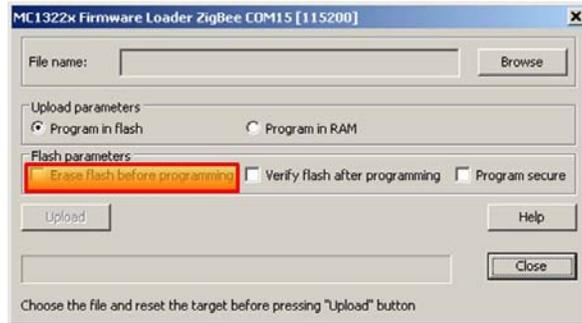

Figure 37 – Screen, FSTT – Firmware Loader Opening
- 6) As shown in Figure 35, click on the '**View**' menu, click on the '**Firmware Loader**' and '**MC1322x Firmware Loader**' in the Pop-ups. The screen in Figure 36 will appear. Select the device (defined in Figure 33) and click '**OK**'. The screen in Figure 37 will be displayed.